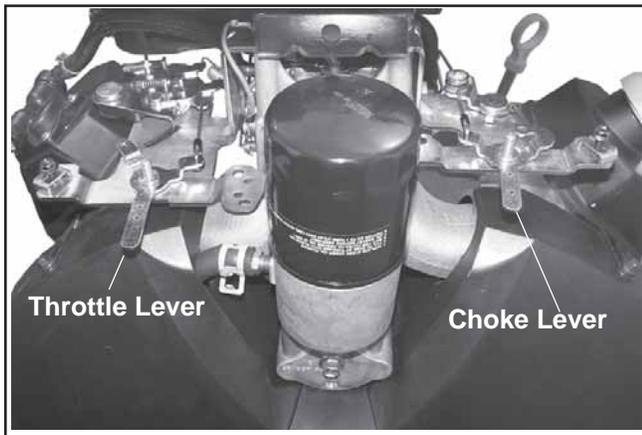

Figure 7. Location of Control Levers.
1. Place the throttle control **midway** between the **SLOW** and **FAST** positions. Place the choke control into the **ON** position. See Figures 7 and 8.